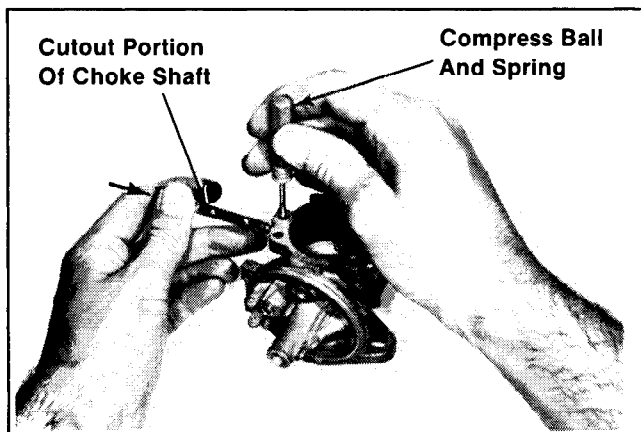

Figure 6-28. Installing Choke Lever/Shaft.
2. Compress the detent ball and spring. Insert the choke lever/shaft assembly into carburetor body with the cutout portion of shaft facing the air cleaner mounting surface (refer to Figure 6-28). Make sure the choke lever is on the correct side of carburetor body.